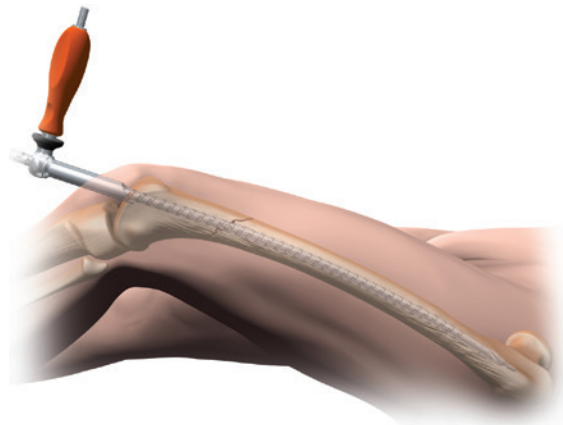

Figure 19
1. Use the 9.0mm End Cutting Reamer Head (71118231) and Flexible Reamer Shaft (71118200) to ream the intramedullary canal sequentially in half-millimeter increments to a size 1.0–1.5mm larger than the selected nail size (Figure 19).